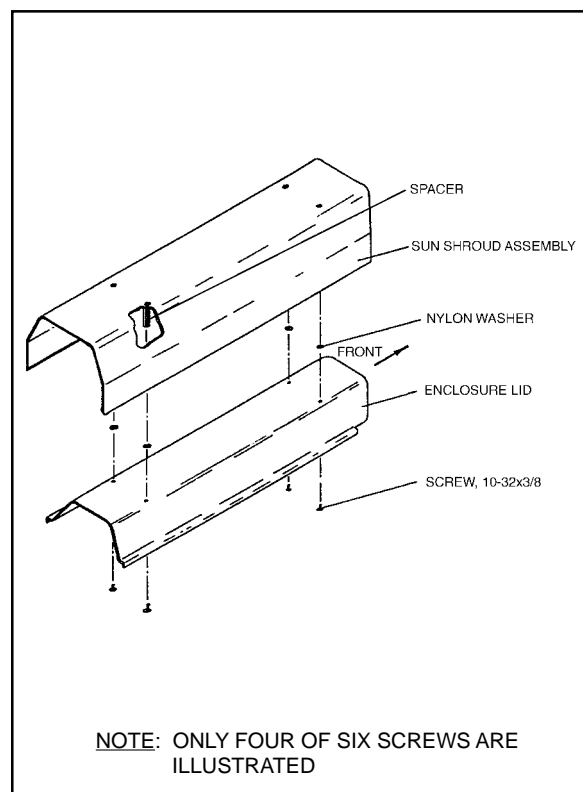

Figure 7. Sun Shroud Assembly Diagram
2. Remove the six (6) screws from the enclosure lid (see Figure 7).
4. Install the screws (and six SPA8467 spacers) as illustrated in Figure 7.